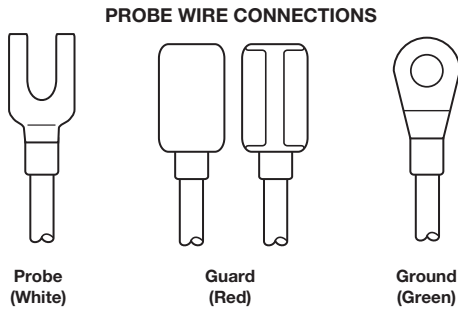
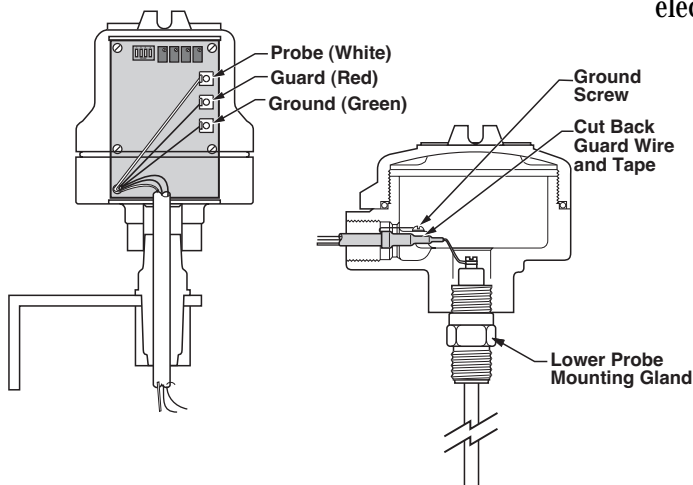

Figure 10a
Figure 12
2. Attach the red guard wire to the slip-on guard connection on probe. Refer to Figure 10a, *Probe Wire Connections*.
Remote electronic housings are normally shipped from the factory assembled in a mounting bracket. To install the electronic housing, proceed as follows. Refer to Figure 12.
1. Screw probe housing onto the probe. Refer to Figure 12.
2. Attach the white probe wire to the probe screw on top of the probe. Refer to Figure 12.
3. Attach the green ground wire to the green ground screw in the housing base. Refer to Figure 10a, *Probe Wire Connections* and Figure 12.
b. **Remote Electronics** – Attach the white and red leads from the triaxial cable to appropriate connection on circuit board. See Figure 12.